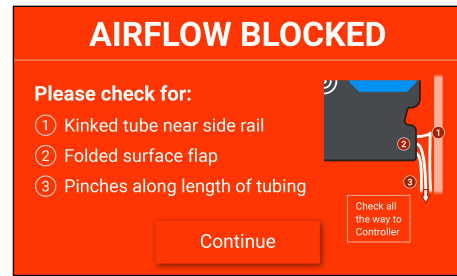

Figure 26. Airflow blocked: Bed Support Surface
1. The Guardian System 2.7 will alert the user if airflow to the support surface is blocked enough to interfere with therapy. (Fig. 26 & 27) If the system is being used on the bed or seat, the auditory alert will last for three (3) minutes. If the system is being used on the procedure table, the auditory alert will last for five (5) seconds.